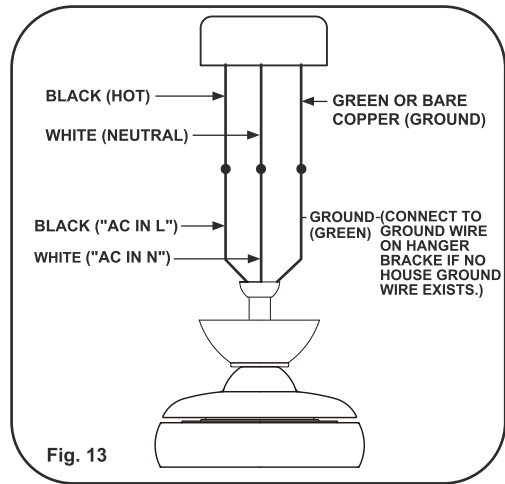

Fig. 13
Connect the **WHITE** wire (Neutral) from the outlet box to the **WHITE** wire marked 'AC in N' in the power cord. Connect the **BLACK** wire (Hot) from the outlet box to the **BLACK** wire marked 'AC in L' in the power cord. Secure all wire connections with the plastic wire nuts provided. (Fig. 13)
Step 2. If your outlet box has a **GROUND** wire (Green or Bare Copper) connect this wire to the Hanger Ball and Hanger Bracket Ground wires. If your outlet box does not have a Ground Wire, then connect the Hanger Ball and Hanger Bracket Ground Wires together. Secure wire connection with the plastic wire nut provided. (Fig. 13)